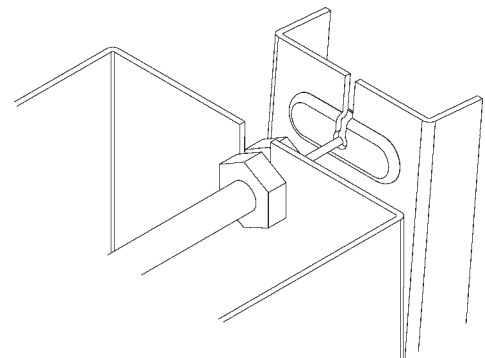

FIG. 11
1. Assemble the operating cable to the fountain bracket. (Fountain should be mounted to exterior wall) Create a loop in the cable and thread the free end of the cable through the wall into the freeze resistant box. The adjustment nuts should be in the middle of threaded area on the operating cable. See Figure 11